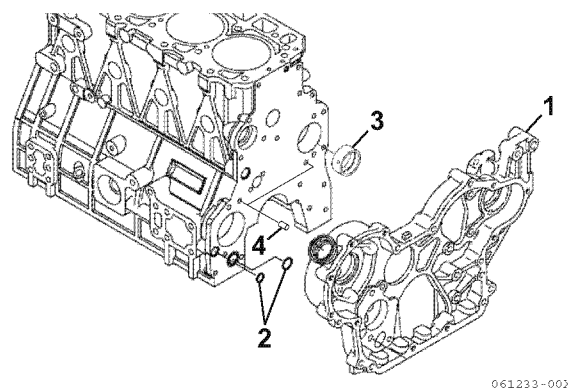
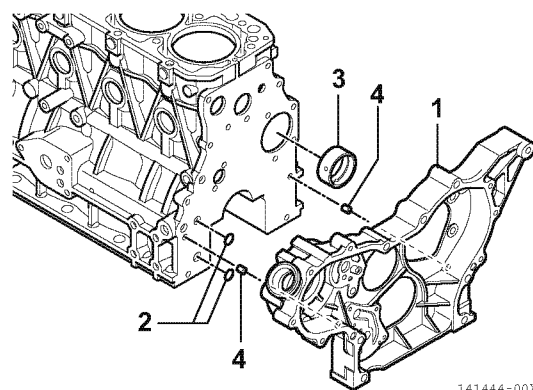

Figure 6-105
Figure 6-106
1. If removed, install a new camshaft bushing (3, **Figure 6-105** and **Figure 6-106**) using the appropriate service tool.
3. **4TNV98C, 4TNV98CT:** Install two new O-rings (P14 and P20) (2, **Figure 6-105**) and two pins (4, **Figure 6-105**) in the cylinder block.
4. **3TNV88C - 4TNV86CHT, 3TN86CHT, 4TN86CHT, 4TN86DHT:** Reinstall the dowels (4, **Figure 6-106**) and two new O-rings (2, **Figure 6-106**).
5. Reinstall the gear case (1, **Figure 6-105**) or front plate (1, **Figure 6-106**). Tighten the bolts to the specified torque.